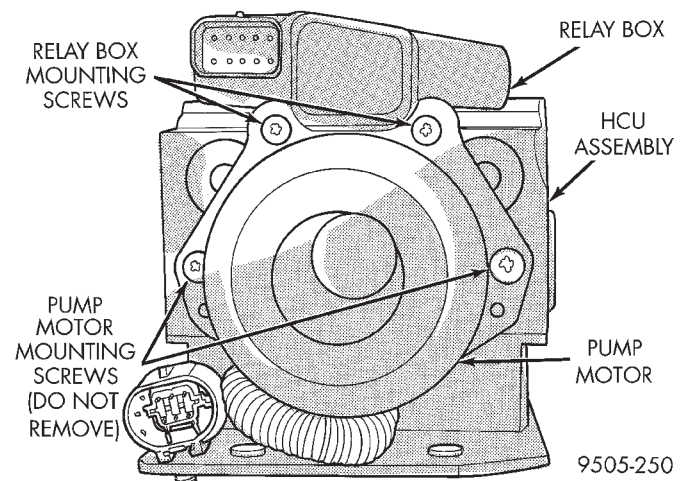

Fig. 25 Relay Box To HCU Mounting Screws
- (1) Disconnect negative (ground) cable from the battery and isolate the cable.
- (2) Remove the HCU from the vehicle. See Hydraulic Control Unit in the Removal And Installation Section in this group of the service manual, for the required removal procedure for the HCU.
- (3) Remove the 2 screws (Fig. 25) attaching the relay box assembly to the HCU. **Remove only the 2 screws mounting the relay box to the HCU do not remove the pump motor mounting screws (Fig. 25).**
(2) Position relay box on HCU and carefully align the terminals on the relay box with the terminals on the pump motor.
(3) Grasp relay box with both hands. Then without twisting or rocking, push relay box onto the pump motor electrical connector as far as possible by hand.
(4) Install and securely tighten the 2 screws (Fig. 25) attaching the relay box assembly to the HCU.
(5) Install the HCU back in the vehicle. See Hydraulic Control Unit in the Removal And Installation Section in this group of the service manual, for the required installation procedure for the HCU.
(6) Connect the negative (-) ground cable back on the negative post of the battery.
(7) Bleed the base brakes and the ABS brakes hydraulic system. Refer to the Bleeding ABS System in this section of the manual for the proper bleeding procedure.
(8) Road test vehicle to ensure proper operation of the base and ABS systems.